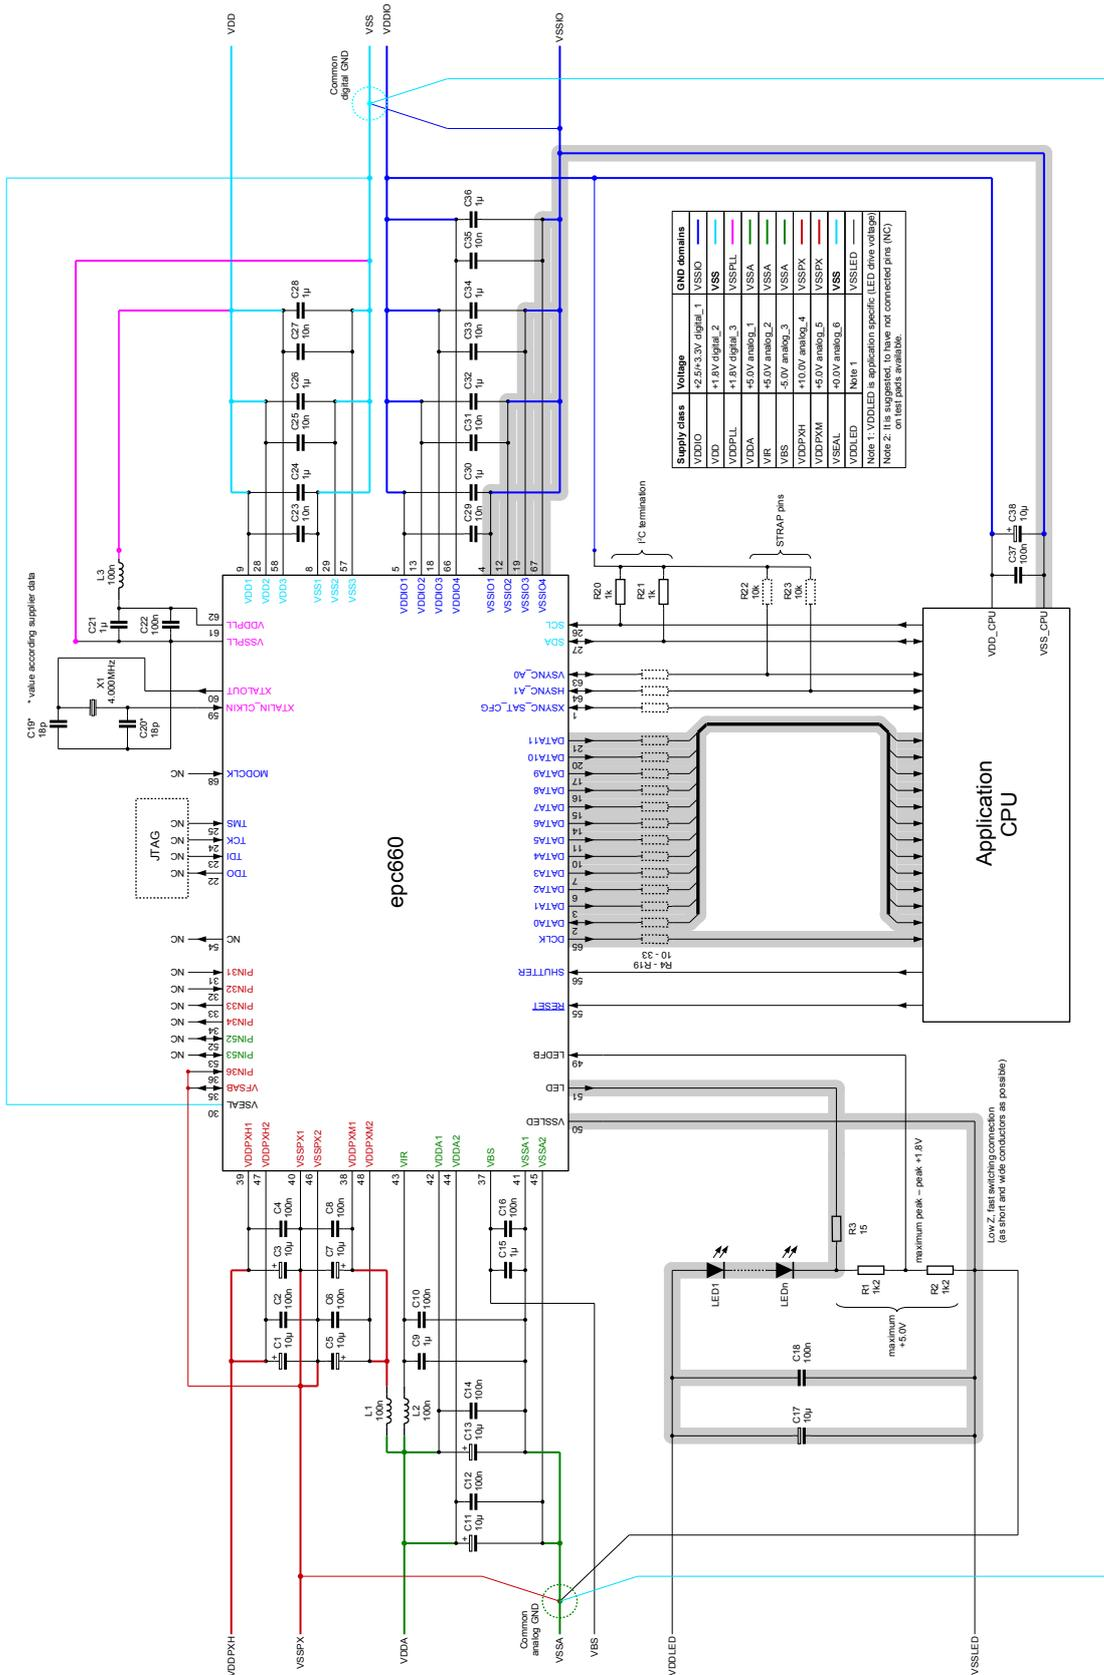
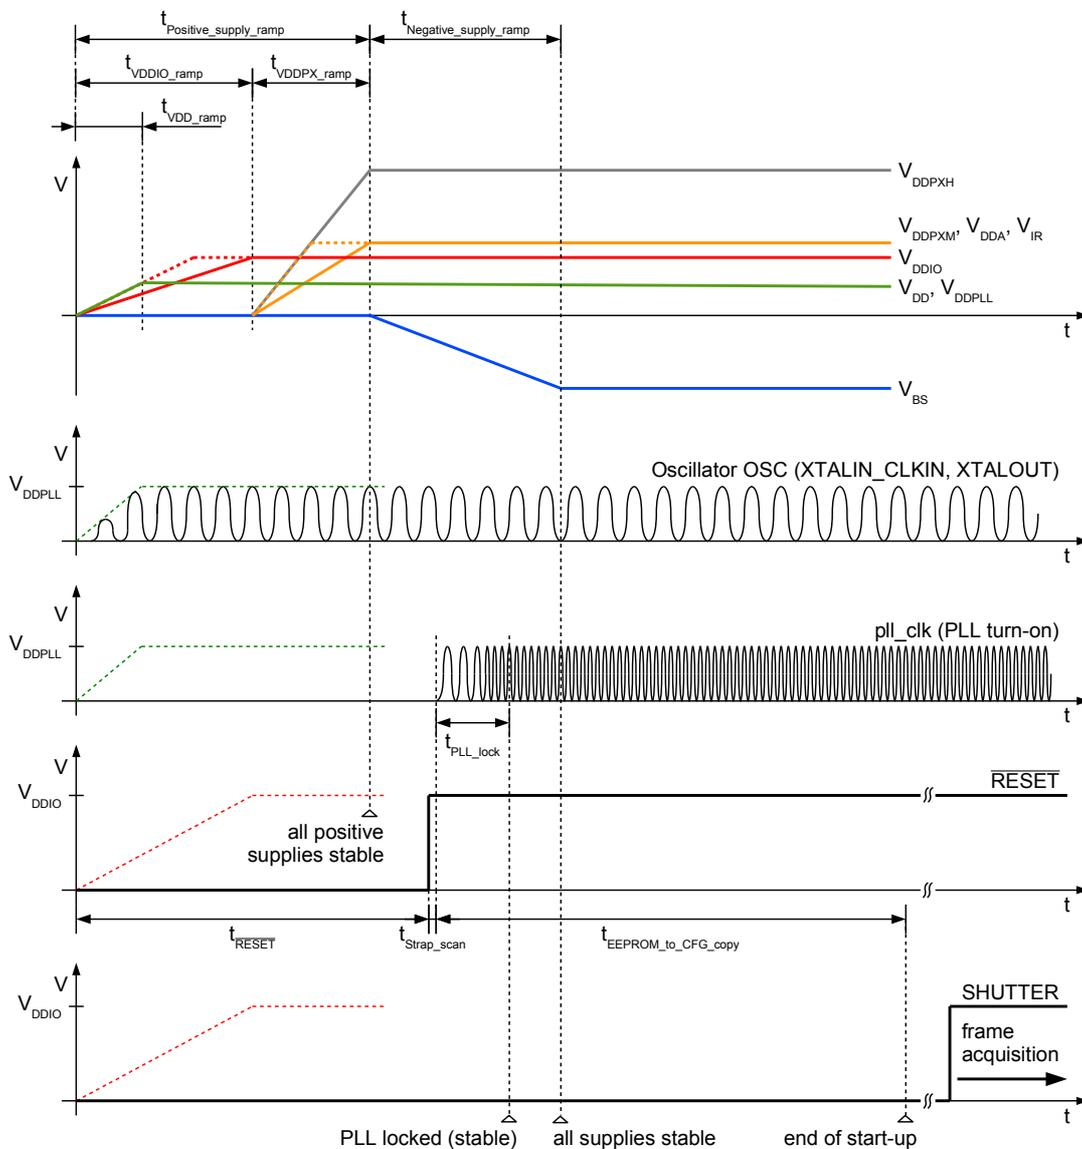

Figure 14: Typical Application Diagram
Figure 17: Start-up and reset sequence during power-up (normal mode)
epc660 is supplied with four positive (+1.8V, +2.5/3.3V, +5V, +10V) and one negative (-10V) external DC supply voltage levels (Figure 14).
- When same supply is shared together with OSC and PLL, their supply wiring must be separated from the digital wires and physically isolated from each other. These supplies are marked in the application diagram as VDD and VDDPLL, respectively (Figure 14). A good practice is inserting on the PCB a series inductance of 100nH between them close to the supply source, then creating separate supply islands for both on the board. The XTAL/OSC and PLL are critical parts of the chip which directly impacts the optical system performance (i.e. distance calculation). Therefore, if the +1.8V supply is too noisy, it is recommended for the application to have a dedicated silent +1.8V supply only for OSC and PLL.
+5V is used for supplying three different analog blocks of the chip, pixel field drivers (VDDPM), ADC readout circuitry (VDDA) and isolation (VIR). Refer to Figure 14).
- The use of a stable supply source with a low ripple is recommended. There is no switching or active internal circuit working on that. Therefore this input can be simply decoupled as indicated application diagram (Figure 14), and does not need a dedicated supply island on the PCB.
- There are optional pull-up resistors R22 and R23 (10k $\Omega$ ) to set initial values of some configuration registers during start up of the chip. Such outputs pins are called strap pins. They are scanned one time immediately after  $\overline{\text{RESET}}$  is released (chapter 5.3.3.). Two LSB of the I2C device address bits are programmable via these strap pins during start-up (chapter 5.3.). When there is only one slave and one master on the I2C bus as in the application diagram (Figure 14), these resistors can be omitted.
To guarantee the proper function of the chip, the remaining, not here listed pins have to be connected according Figure 14.
Table 11: Values of component related to epc660 chip (Figure 14)
During the power-up sequence,  $V_{DD}$  and  $V_{DDPLL}$  supplies (Figure 17) must be applied at the same time to the epc660.  $V_{DDIO}$  can be applied either at the same time or after  $V_{DD}$  and  $V_{DDPLL}$  supplies become stable. In a system where  $V_{DDIO}$  voltage is connected in parallel to application CPU IO supply pins (see Figure 14),  $V_{DD}$  and  $V_{DDPLL}$  can be generated by a linear regulator directly from  $V_{DDIO}$  supply. In this case, all these three supplies ramp together.
The epc660 has output pins with dual/alternative functionality for PCB level flexible start-up configuration changing, called 'strap pins'.  $\overline{\text{RESET}}$  release is followed by a very short strap pin scanning step. The chip programs all of its strap pins as inputs with internal weak pull-downs enabled for 4 *osc\_clk* periods. If there is no external pull-up resistor connected, the corresponding strap pin will be scanned as logic 0 due to internal pull-down resistor. If there is an external pull-up resistor connected (Figure 14), it will override the internal pull-down and corresponding pin will be scanned as logic 1. After the strap scan period, pins are programmed back as outputs so that they can be used for their main function. Strap pins and their definitions are listed below (Table 12).
The epc660 starts using either the internal 4MHz oscillator OSC with a crystal/resonator (Figure 14) or an external 4MHz clock, followed by an EEPROM copy sequence in parallel to the PLL turn-on phase. This is the factory default configuration.